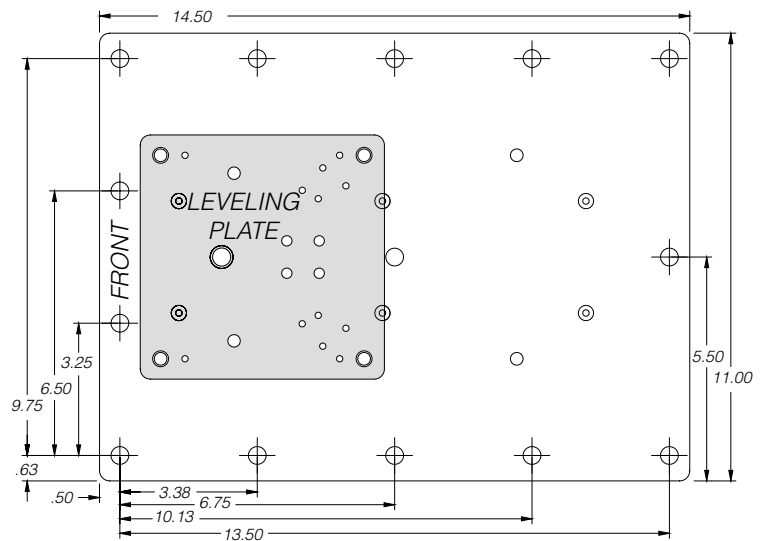

FIG. 1:
STEP 1: Mount heavy duty plate under countertop (FIG. 1).